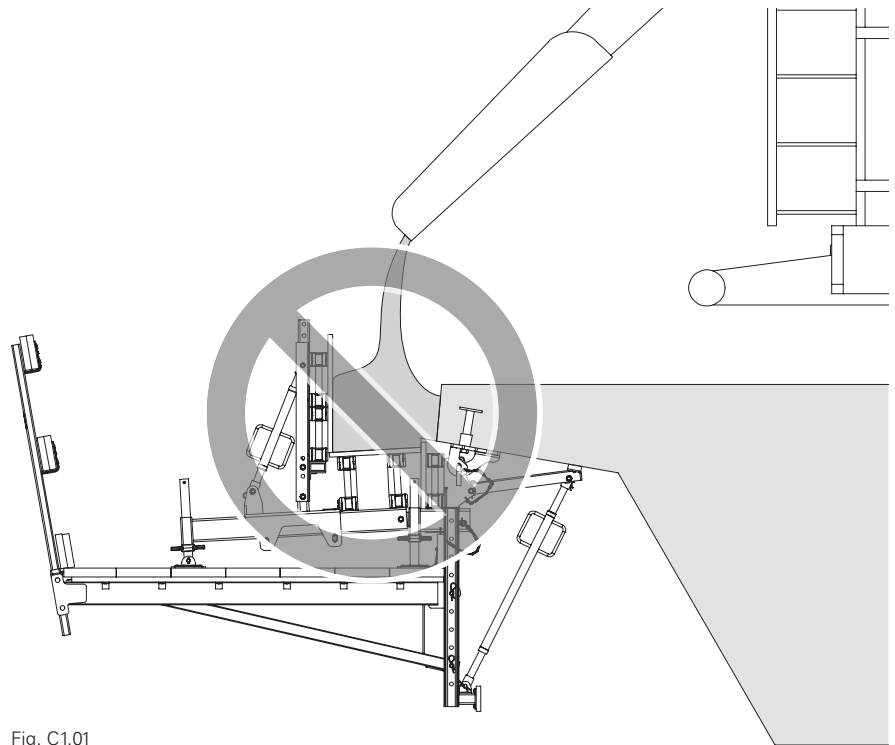

Fig. C1.01
- ⇒ Avoid any accumulation of concrete in the area of the cantilevered parapet track. (Fig. C1.01)